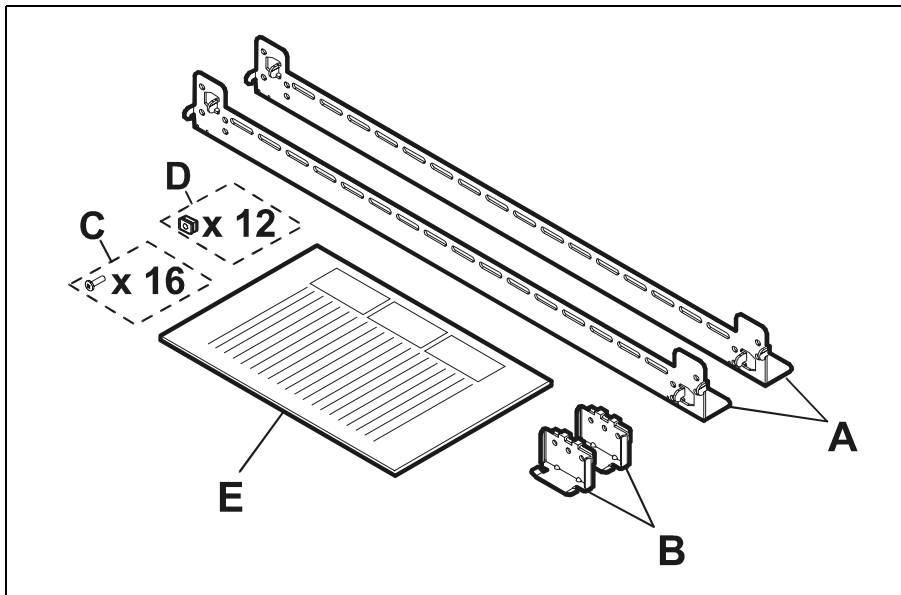

Figure 18 Rail Kit HP A5251A Contents
1. Unpack the rail kit A5251A and verify the contents shown in Figure 9 and Figure 18.